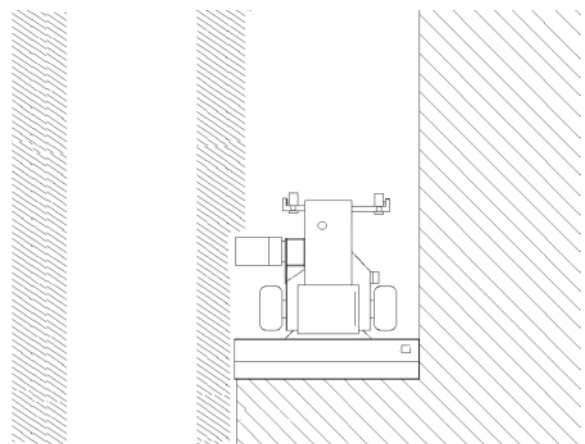

Figure 5. Double Windrowing, Second Pass (Two-in-one)
- b/ In the second pass, raise the deflector (heavy conditions) or increase the belt speed (light conditions) to deliver the second windrow on top of the first windrow (See Figure 5).